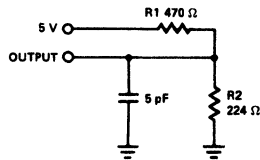

Figure 1b
4. Transition is measured at steady state HIGH level – 500 mV or steady state LOW level + 500 mV on the output from 1.5V level on the input with load shown in *Figure 1b*.